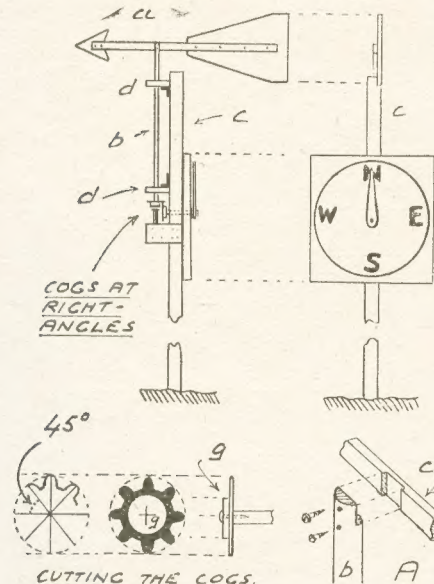

Fig. 1—Details of the main pillar
The bar (a) is 1ft. 6in. long, $\frac{3}{16}$ in. thick and $\frac{1}{2}$ in. deep. This is deeper than usual as it has to fit firmly to the axle, as (A) Fig. 1. At one end is the arrow-head and the other the vane 10in. long and 6in. deep at the back. This item can be made of stiff card as long as it is well painted over to make it weather-proof. A better job can be effected by using light tin or aluminium taken from a discarded cooking utensil.